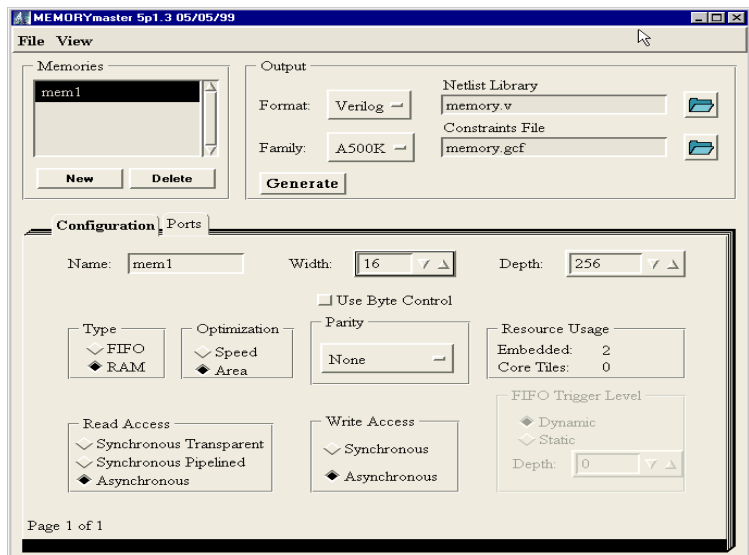

Figure 1-2. MEMORYmaster Main Window
When you invoke MEMORYmaster, the main window, shown in Figure 1-2, is displayed. From this window, the format of embedded memory, the target ProASIC device and the configuration of the memory are selected.
The Resource Usage section is updated as changes are made to reflect the number of memory and logic tiles that the memory block requires in its implementation. The basic embedded 256x9 bit RAM or FIFO requires no logic core tiles. Logic core tiles are required for implementing embedded memories that are wider and/or deeper than 256x9 bit. The use of core resources is also dependent on the user's choice to generate a memory optimized for speed or area. Figure 1-2, shows a memory that was optimized for area. Optimizing for area required eight memory blocks and 29 core tiles. If it is optimized for speed the FIFO would be mapped to 8 memory blocks and 138 core tiles. Be aware that MEMORYmaster is not part specific. Users must ensure that the target device has sufficient memory resources to accommodate the memory blocks. For example, the A500K130 has 20 basic 256x9 bit memory resources available. If a 512x32 bit FIFO is defined using MEMORYmaster, then every instance of that memory will use eight of the available memory resources.
4. **Once the Embedded MEMORYmaster Main window is displayed as shown in Figure 1-2 on page 5, click New.** A new memory configuration is created named mem1.
6. **On the Configuration tab, shown in Figure 1-2, name the memory block currently being created in the Name field, and select its parameters from the choices given.**